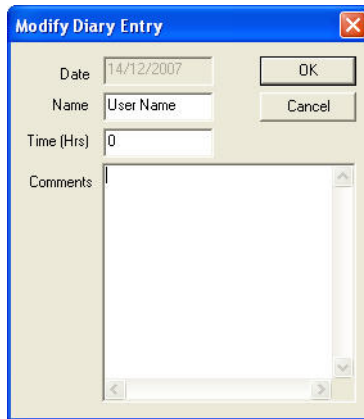

Figure 8-5. Diary Tab – Modify Diary Entry
1. On the *Diary* tab, select an entry, and press **Modify**. The *Modify Diary Entry* dialog box appears (Figure 8-5 on page 8-6).